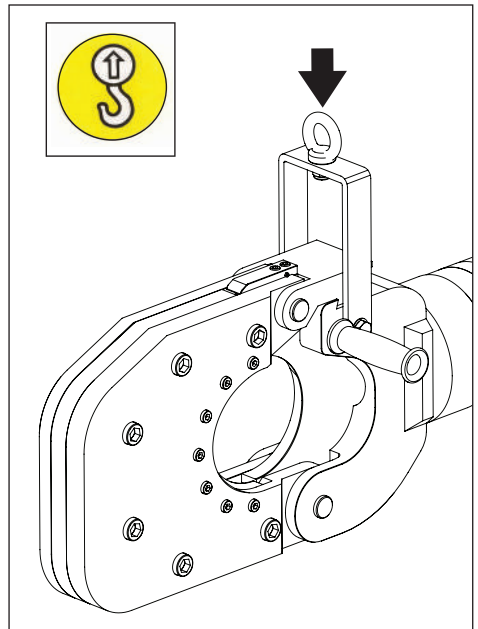

Figure 7, Cutter Lifting Location
- If it is necessary to move or transport the cutter, use only the cutter handles or the supplied lifting eye. See Figure 7. Use appropriately rated lifting equipment.